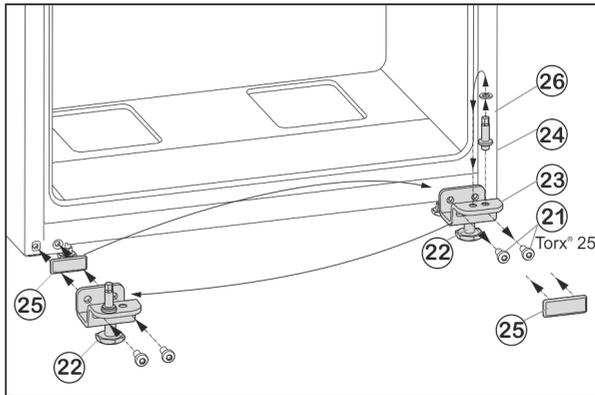

Fig. 7
- ▶ Unscrew fastening screws Fig. 7 (21).
- ▶ Remove the lower bearing block Fig. 7 (23), complete with bearing bolt Fig. 7 (24), washer Fig. 7 (26) and adjustable foot Fig. 7 (22).
- ▶ Unscrew the bearing bolt Fig. 7 (24), complete with washer Fig. 7 (26), re-locate it into the mounting hole on the opposite side of the bearing block and tighten again.
- ▶ Carefully remove the cover plate Fig. 7 (25) and re-locate it to the other side.
- ▶ Fasten the lower bearing block Fig. 7 (23), complete with bearing bolt Fig. 7 (24), washer Fig. 7 (26) and adjustable foot Fig. 7 (22) to the new hinge side, with the help of a cordless screwdriver if necessary, and **tighten (with 4 Nm)** once again.
- ▶ Lower the bottom door onto the bearing bolt Fig. 7 (24).
- ▶ Unscrew the adjustable foot Fig. 7 (22) on the lower bearing block Fig. 7 (23) until it reaches the floor.